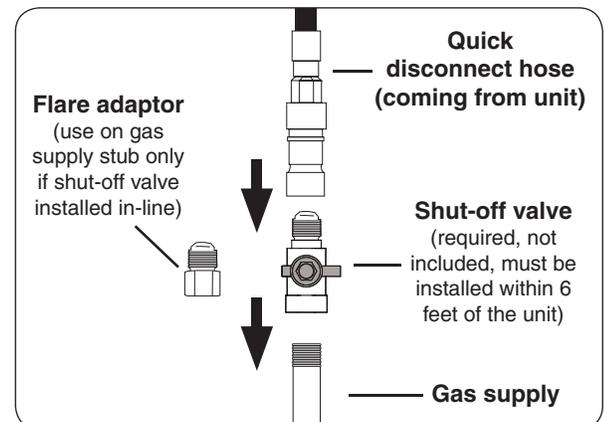

Fig. 15-5 Connecting to a gas line
- Connect the quick disconnect hose to the shut-off valve (see Fig. 15-5). Tighten securely.***If shut-off valve is installed in-line:***
- Install the supplied flare adaptor to the gas supply using a pipe joint compound resistant to all gasses (see Fig. 15-5). Tighten securely.
- Connect the quick disconnect hose to the flare adaptor (see Fig. 15-5). Tighten securely.